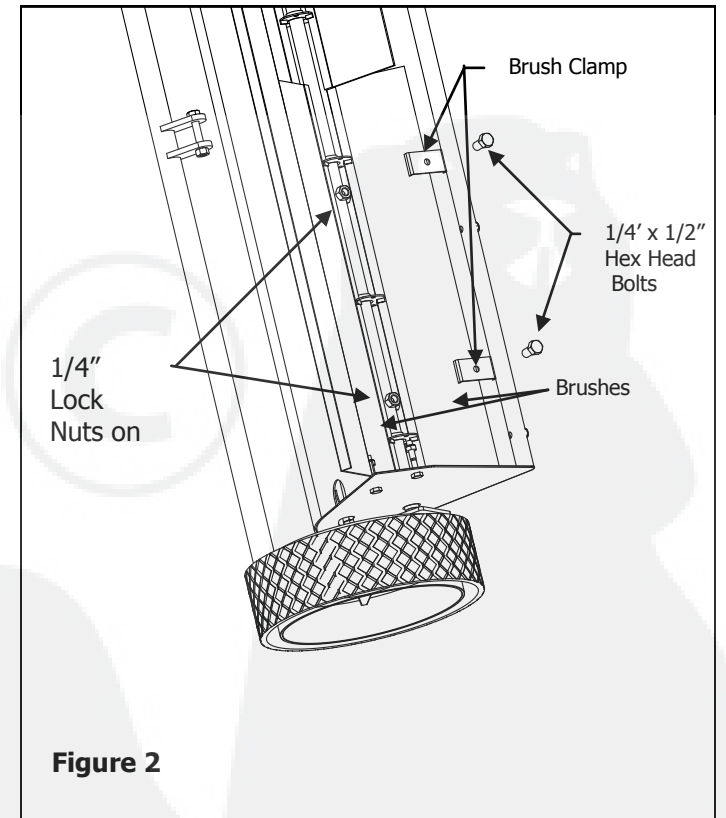

Figure 2
**Brush Replacement:** Remove Hex Head Bolts holding on the Brush Clamps. Place Brush Strips in slots of Brush Disc so shorter supporting bristles are away from brush sweeping rotation. Place the Brush Clamp against the brushes and tightly secure with the 1/4" x 1/2" Hex Head Bolts into the nut on the Brush Axle. See Figure 2.